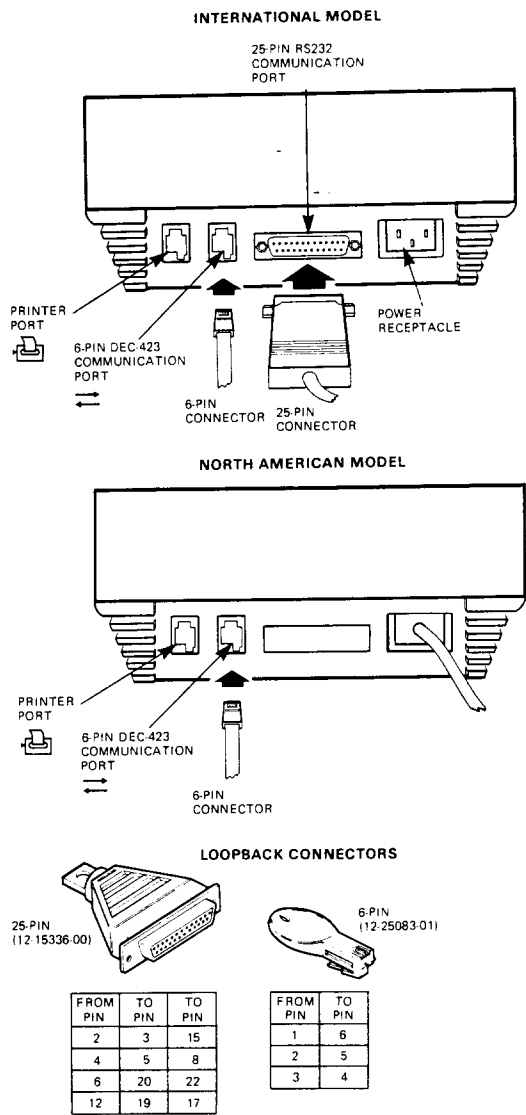

Figure 1-4 VT320 Rear Connector Panel and Loopback Connectors
For this test, you connect the DEC-423 port transmit and receive data lines together with a loopback connector (Figure 1-4). The terminal sends a predefined set of characters on its transmit line and receives them on its receive line. Then the terminal compares the output characters to the input characters. If the characters do not match, an error message appears on the screen.
2. Connect the loopback connector to the 25-pin RS232 port (Figure 1-4).
2. Connect the loopback connector to the printer port (Figure 1-4).